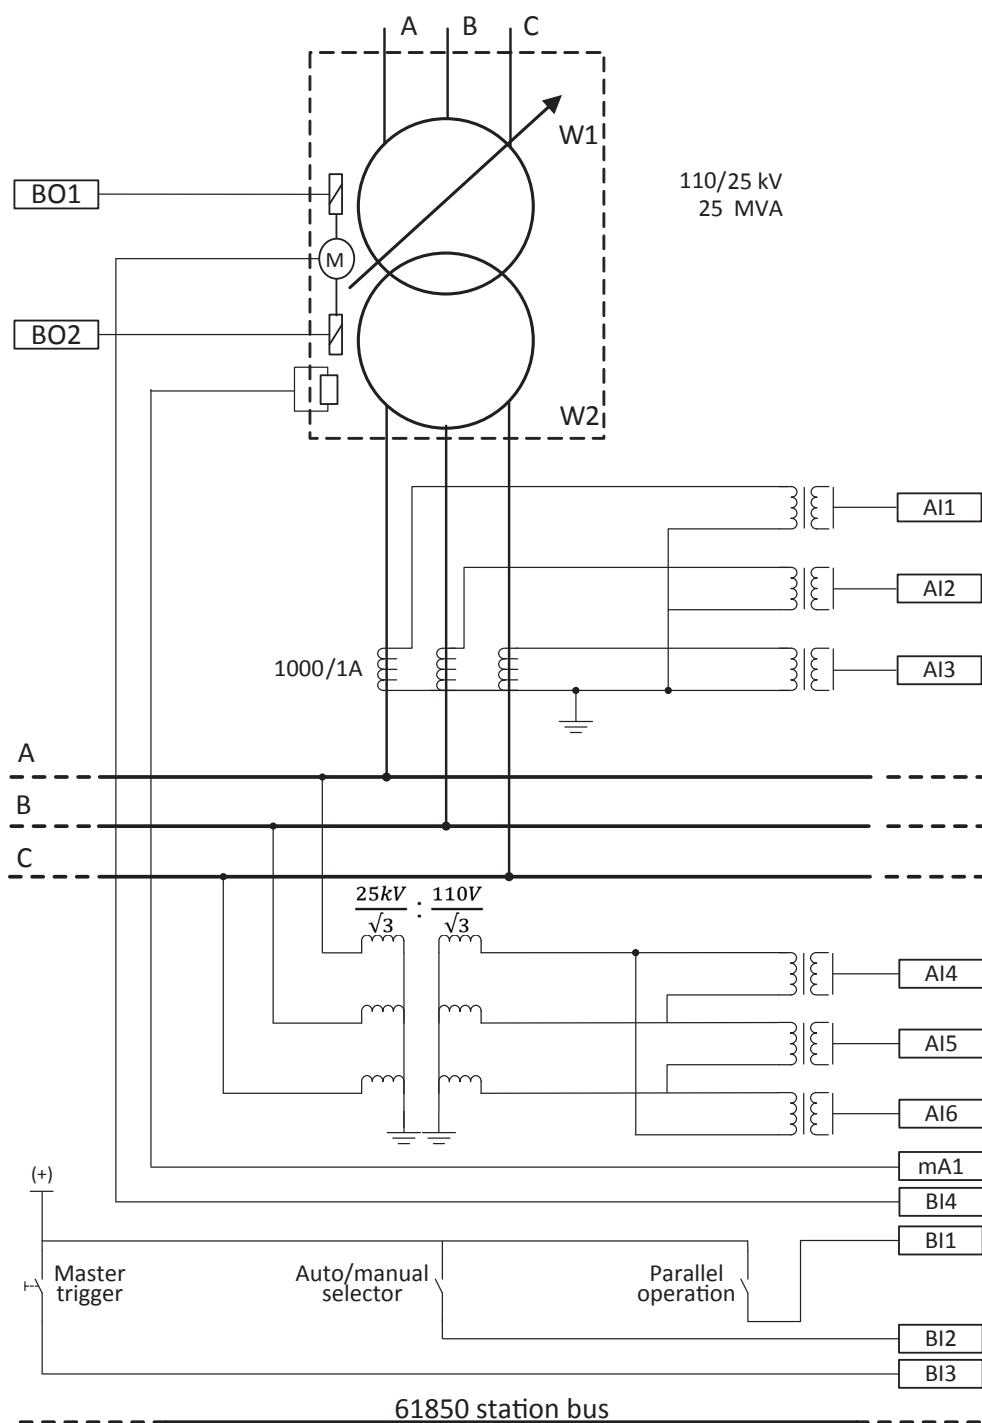

Figure 29: Relay 1 interfaces and CT/VT connections for TR1 in example case 2
Figure 29 shows the connection details of the relay's (Relay 1) analog inputs (AI), binary inputs (BI), milli-Ampere inputs (mA) and binary outputs (BO) for transformer TR1 of the example case. The CT connections for phase current measurements in all phases and the VT connection for voltage measurement on the MV side are also shown. In the example case, the tap changer position value is input as an mA input for transformer TR1 and input to TPOSYLTC.